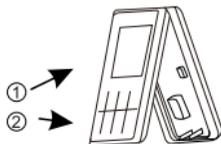

Fig.4
5. Connect the wire: Attach the connecting wire to the main body of the wire controller as shown in Fig. 4.